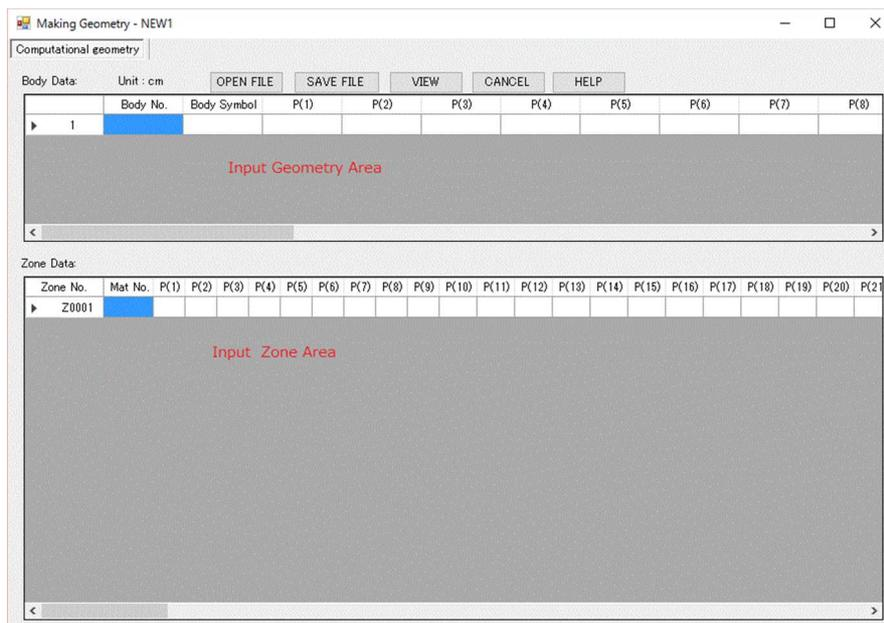

Fig.9.1-2 Window to create geometry data
Select [File]-[Making geometry data] in the main menu to open a window to create geometry data. Then, a window as shown in Fig.9.1-2 appears.
(caution) Number in () is parameter number in Make Geometry. (1) is input Parameter Column 1 in table in Fig9.1-2. (and so fourth)